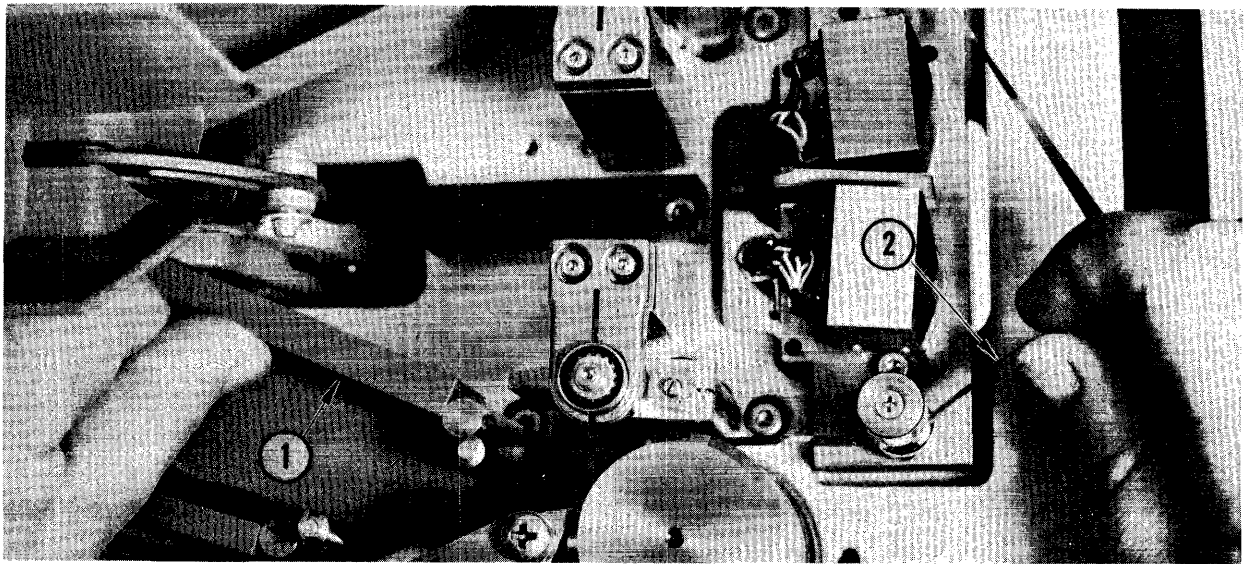

Figure 5-10.
Step 1: Clamp tape against wall of vacuum chamber and hold other end of tape between head guide and head stack as shown in Figure 5-10.